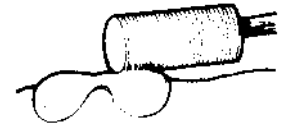

Fig. 1
1. Wax the copings with a flat occlusal surface approximately perpendicular to the line of insertion. Cast copings in any hard alloy. Set all copings on the model and grind the occlusal surfaces keeping them flat and parallel (Fig. 1). (For greatest possible accuracy you can use a milling machine; however, that really isn't necessary.) After grinding, use a caliper to measure coping thickness. (Note thickness for reference in Step 6.)